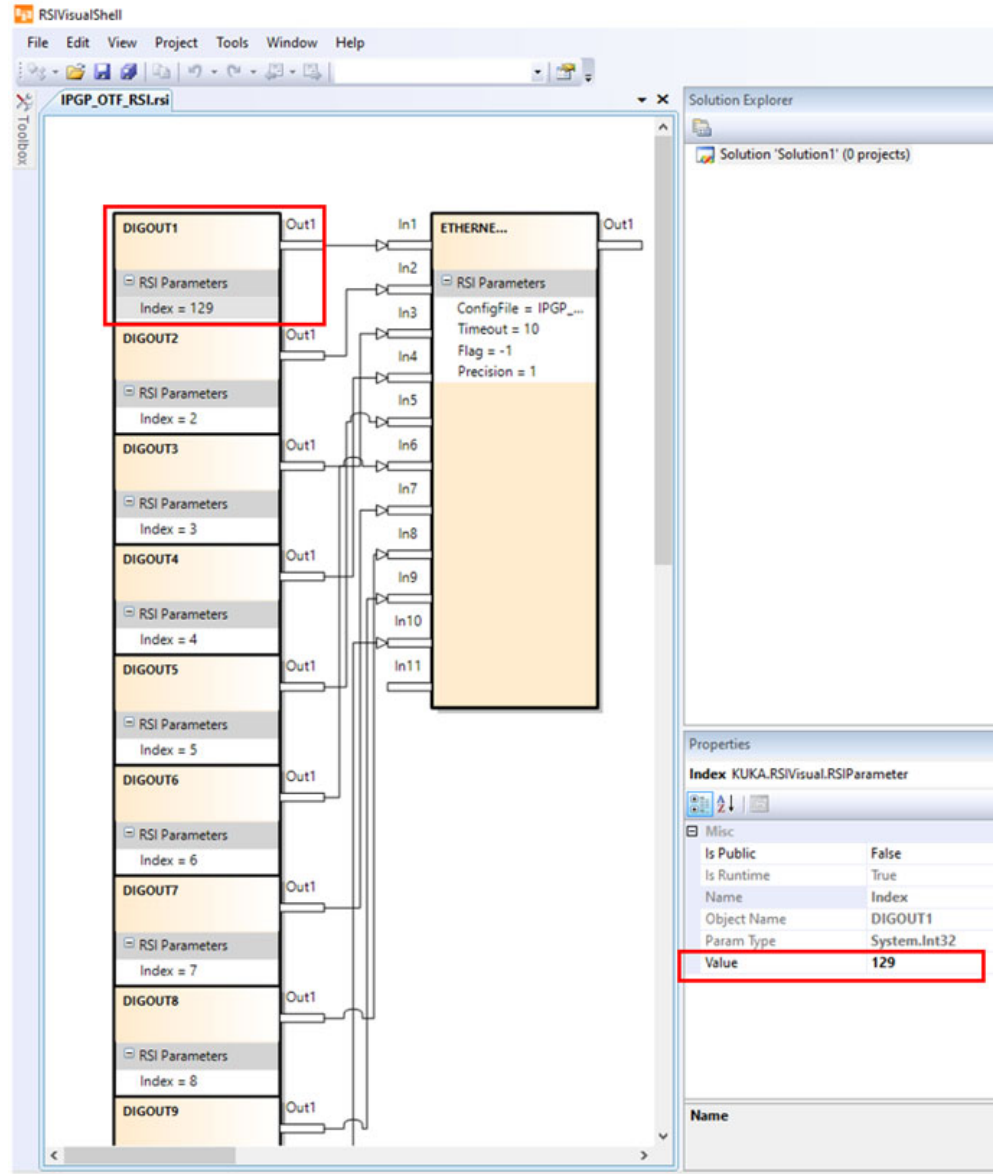

Figure 212: START Bit Configuration in RSIVisualShell
- i. Set the appropriate Index value for "DIGOUT1" based on the digital output bit on the robot that corresponds with the scanners START bit. Figure 212 on page 209 provides an example of the "DIGOUT1" bit being configured for digital output bit 129.